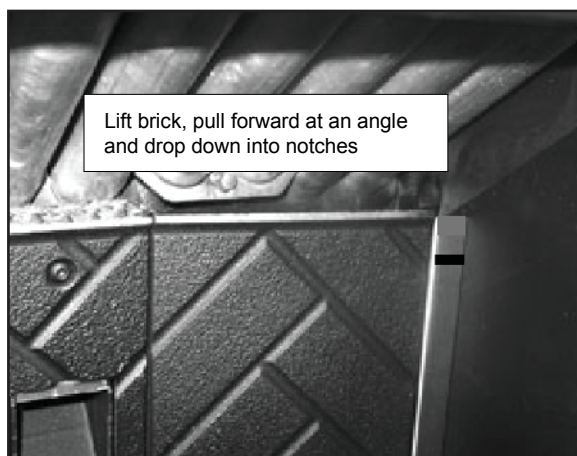

Figure 19.1
3. Lift slightly and pull the right edge of the brick forward until it stops and then drops down into both top and bottom notches of right bracket and locks into place. **Figures 19.1 and 19.2.**